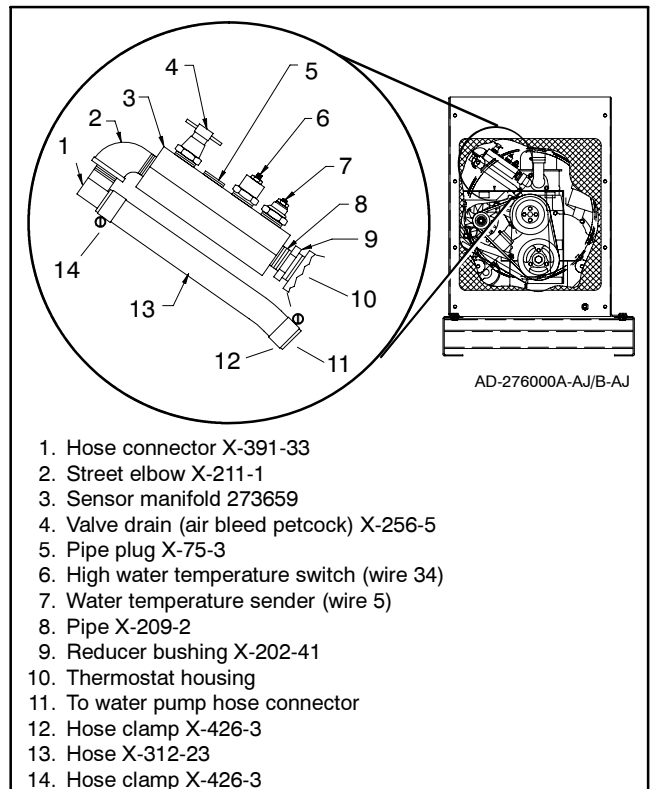

Figure 5 Installing Sensor Manifold
- 5.1 Apply pipe sealant to reducer bushing X-202-41 and install in the thermostat housing. See Figure 5.
- 5.3 Coat the remaining end of the pipe and install sensor manifold 273659. Position the sensor manifold ports as shown in Figure 5.
- 5.4 Apply pipe sealant to the male threads of street elbow X-211-1 and install in sensor manifold. Position the street elbow as shown in Figure 5.
- 5.5 Coat the threads of hose connector X-391-33 with pipe sealant and install in the street elbow. Position the hose connector as shown in Figure 5.